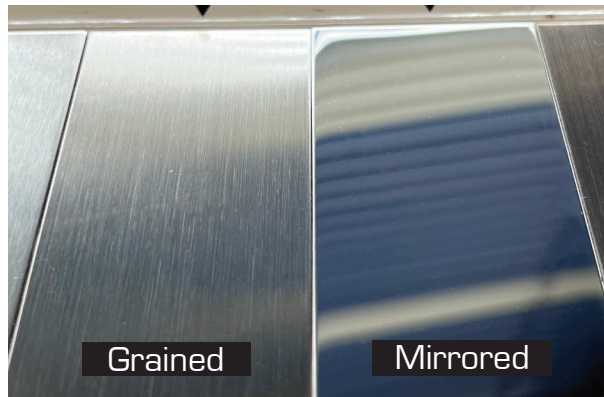

Figure 1: Grained vs Mirrored finish samples
- AMBICO stainless steel doors are available in traditional and colored stainless steel. The finishing options range from 2B "mill" finish, grained options such as #4 "satin" and #6 "non-directional" to polished finishes like #8 and #10 (Refer to Figure 1).